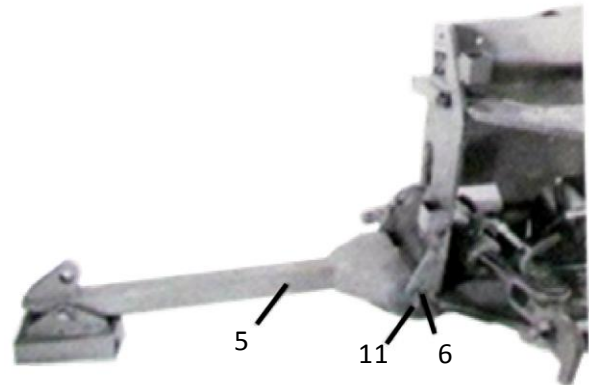

Fig. 5
(5) Attach the left stabilizer arm (Item 5) between the stabilizer mounting lugs, located on the left side of the mainframe near lower edge, securing the arm to the mainframe with one (1) each stabilizer pin (Item 6) and two (2) each 3/16" x 1 1/2" cotter pins as shown in Fig. 5.
(6) Repeat step 5 for the right side stabilizer arm.